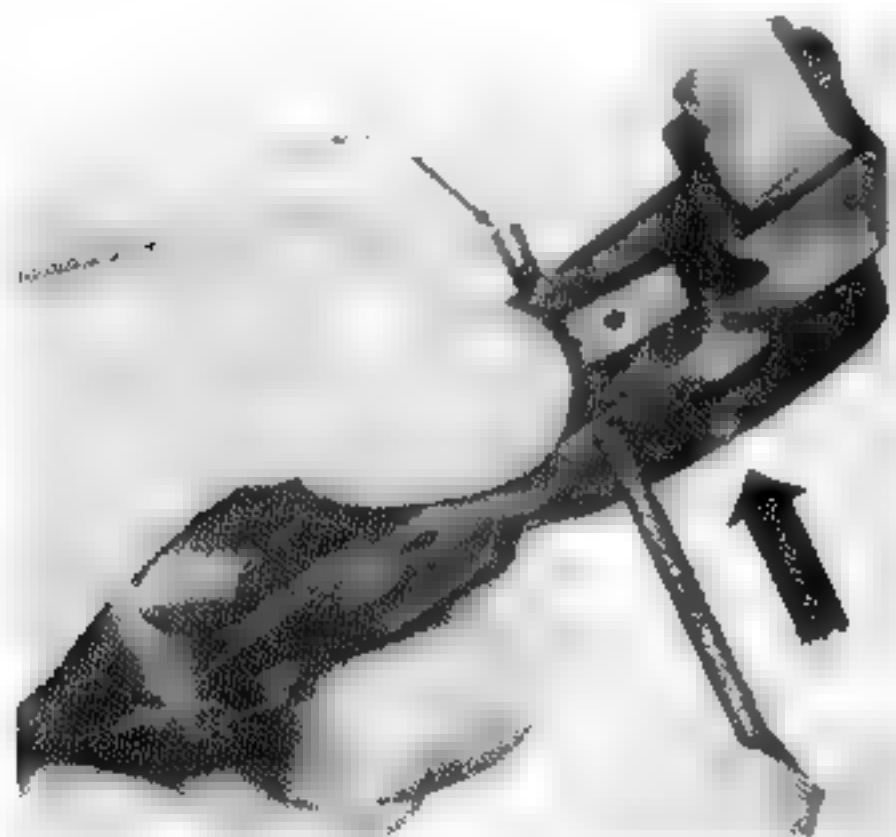

Figure 21 Removing the trigger pin.
c. Hold the trigger housing group in the left hand as shown in Figure 21, with the thumb pressing down on the sear. Using the small end of the operating slide spring guide, drift out the trigger pin from right to left. Turn the trigger housing group upside down and allow the sear and sear spring to fall out.